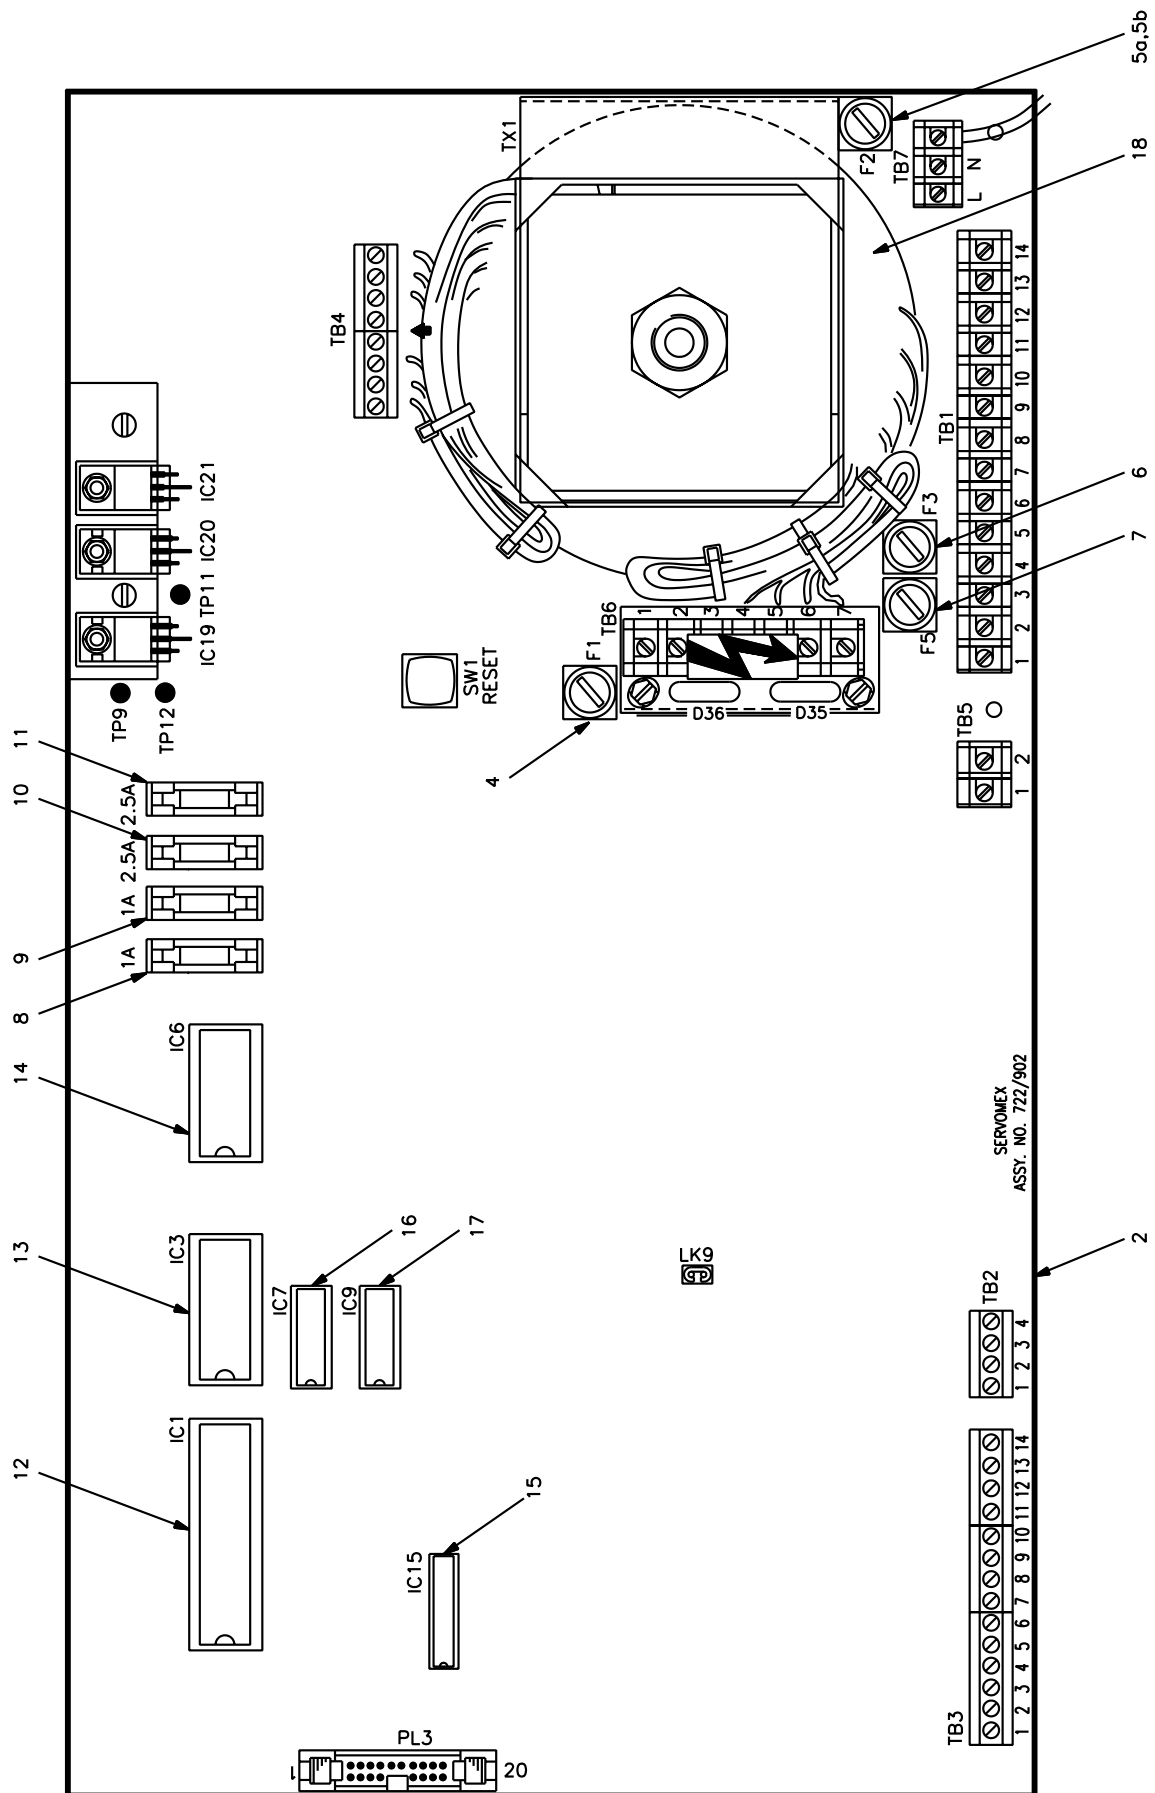

Figure 7.1 Component Location - Control Unit
7.2.1 Control Unit (Refer to Figure 7.1)